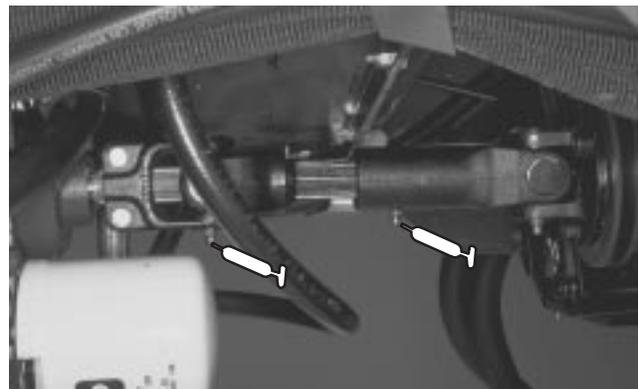
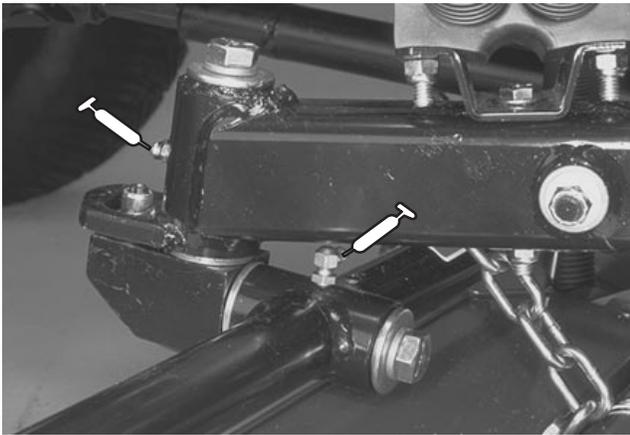
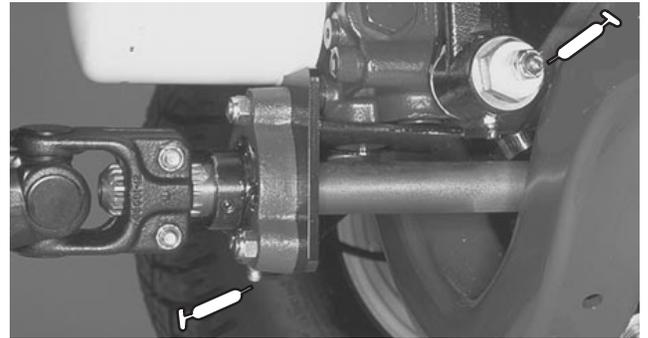

Figure 39
Figure 40
Figure 43
The grease fitting locations and quantities are: Engine Drive shaft (3), (Fig. 39); Cutting unit carrier frame and pivot (2 ea.), (Fig. 40); Lift arm pivots (5), Drive shaft clutch (1) (Fig. 41); Rear axle tie rod (2), Steering cylinder ball joints (2), Axle steering pivots (2) Rear axle pivot (1) (Fig. 42); Traction control linkage at transmission (1), Drive shaft support bearing (1), Rear axle drive shaft (3) (Fig. 43); Brake pedal (1) (Fig. 44); Lift cylinders (5) (Fig. 45) and Fan shaft (Fig. 46).